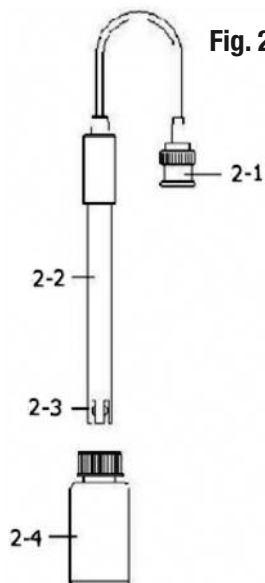

Fig. 2
1. To calibrate the pH electrode, perform the following procedure while referring to Figure 2.